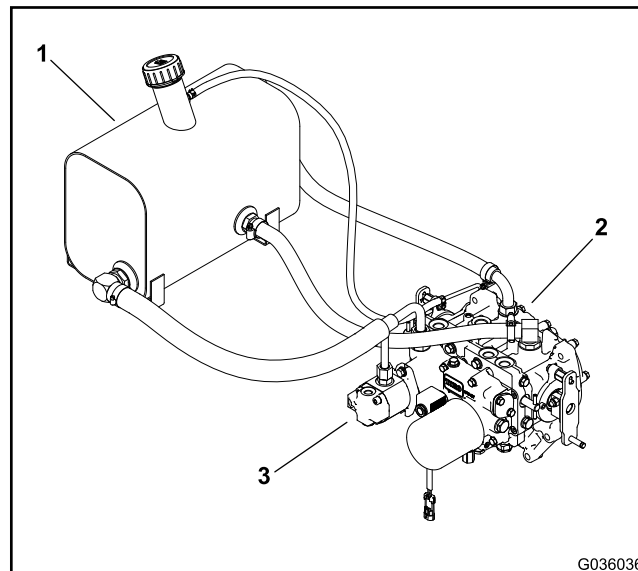

Figure 63
6. For assembly purposes, label all the hydraulic hoses and fittings. Remove the hydraulic hoses from the fittings on the hydraulic tank (Figure 63) and drain the hoses into a suitable container.